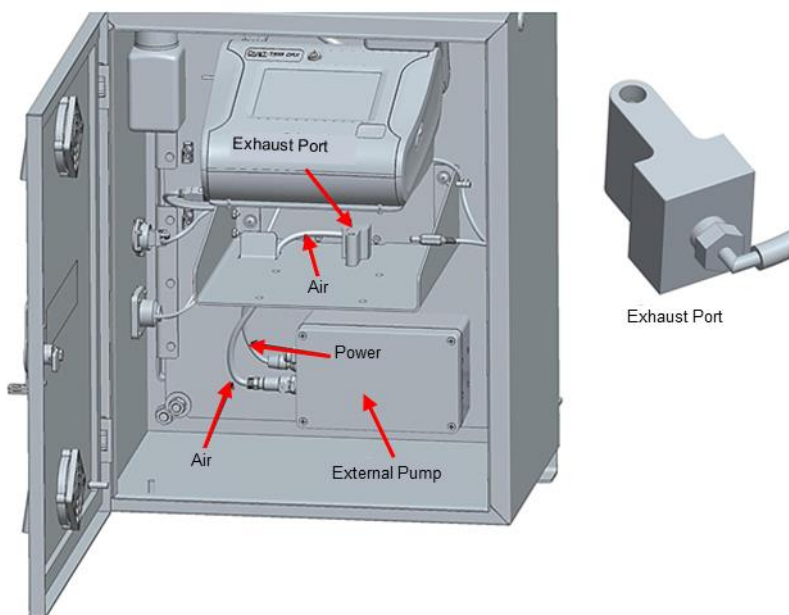

Figure 17: Connect External Pump to DustTrak Monitor
5. Remove the black tube from one of the quick disconnect fittings and slide tube over the barb of the 90° fitting. Attach Air line from exhaust port of the DustTrak monitor to the inlet port of the external pump and attach external pump control cable to the DustTrak monitor as shown in Figure 17. Review 8530/33-EP manual for details on the air and control cable connection.